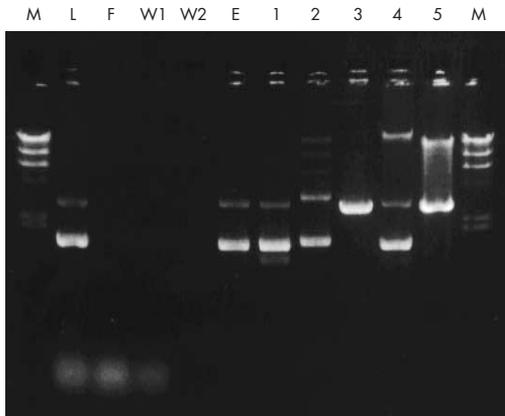

Figure 3 Agarose gel analysis of the plasmid purification procedure.
- a) Dimer form of plasmid Dimers or multimers of supercoiled plasmid DNA are formed during replication of plasmid DNA. Typically, when purified plasmid DNA is electrophoresed, both the supercoiled monomer and dimer form of the plasmid are detected upon ethidium bromide staining of the gel (see Figure 3, page 42). The ratio of these forms is often host dependent.
- b) Plasmid has formed denatured supercoils This species runs faster than closed circular DNA on a gel and is resistant to restriction digestion (see Figure 3, page 42). Do not incubate cells for longer than 5 min in Buffer P2. Mix immediately after addition of Buffer P3.
Run 2 μ l of each sample on a 1% agarose gel* for analysis of the fractions at each stage of the plasmid purification procedure. Figure 3 shows an analytical gel of the different fractions, together with examples of problems that can arise at each step. If you find that you have a problem with a particular step of the protocol, turn to the hints in the relevant section of the troubleshooting guide on pages 35 – 40. If the problem remains unresolved, or if you have any further questions, please call QIAGEN Technical Service.